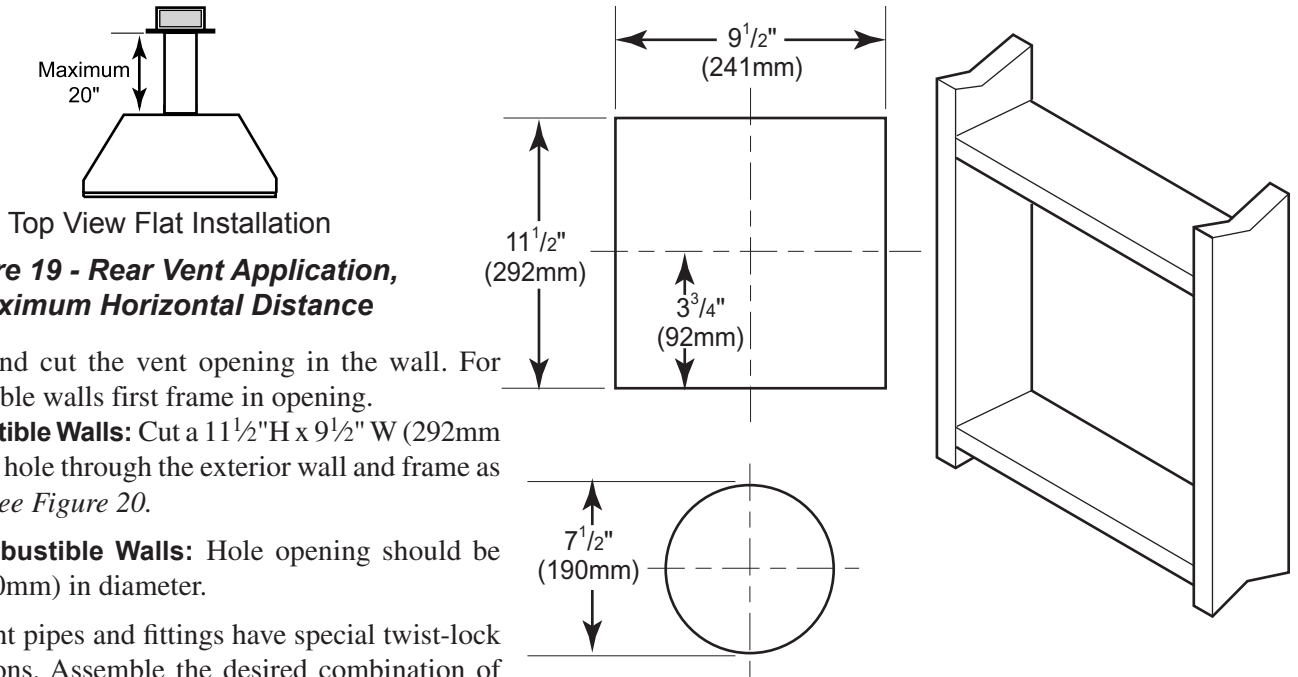

Figure 19 - Rear Vent Application, Maximum Horizontal Distance
- The maximum horizontal distance between the rear of the appliance and the outside face of the rear wall is 20" (508 mm). See Figure 19.